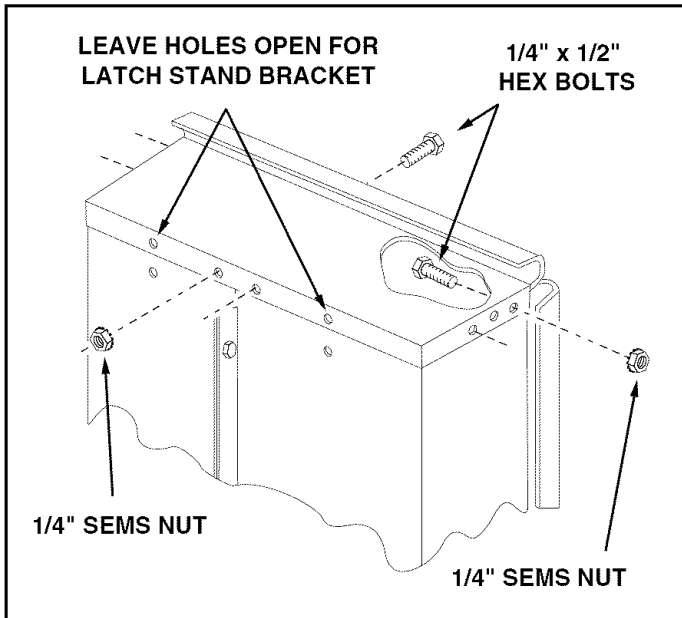

FIGURE 4
10. Assemble the front panel over the end of the cart using six 1/4" x 1/2" hex bolts and 1/4" SEMS nuts as shown in figure 4. Leave two holes in the bottom of the panel empty as shown. Pull the cart body halves together and **tighten** the bolts in the bottom of the front panel, then **tighten** the bolts in the sides. See figure 4.